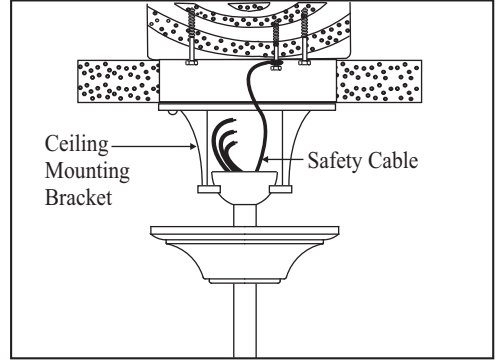

Figure 9
5. Secure the safety cable to the building structure as shown in Figure 9.